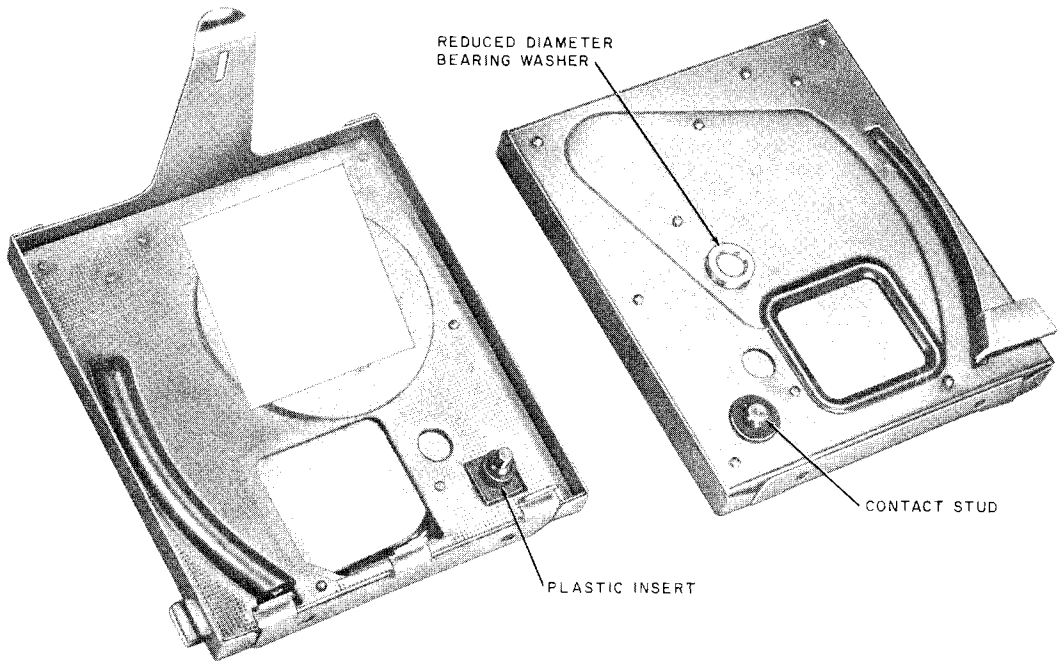

Fig. 3—1E Cover
- (c) A 1E coin receptacle cover (Fig. 3) is also required for each coin box. The 1E cover is similar to the 1D (MD) cover except it is equipped with a contact stud.